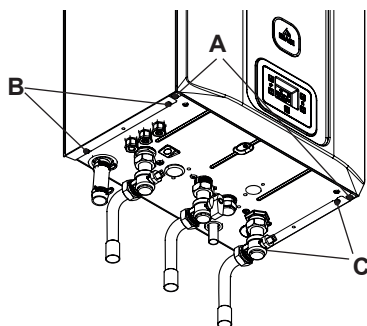
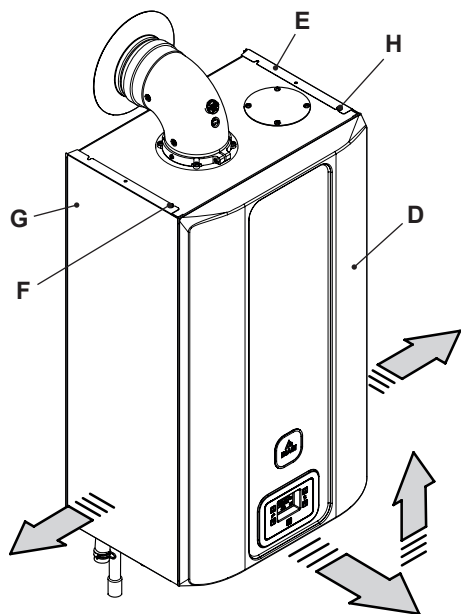

Fig. 10.7
Fig. 10.8
- Unscrew screws "A" and remove the front panel "D" by pulling it and pushing it towards the top so that it is freed from the top housings (Fig. 10.7 and Fig. 10.8).
Loosen screws "B - F" and "C - H" in Fig. 10.7 and remove the two side panels "E" and "G" by pulling towards the outside.